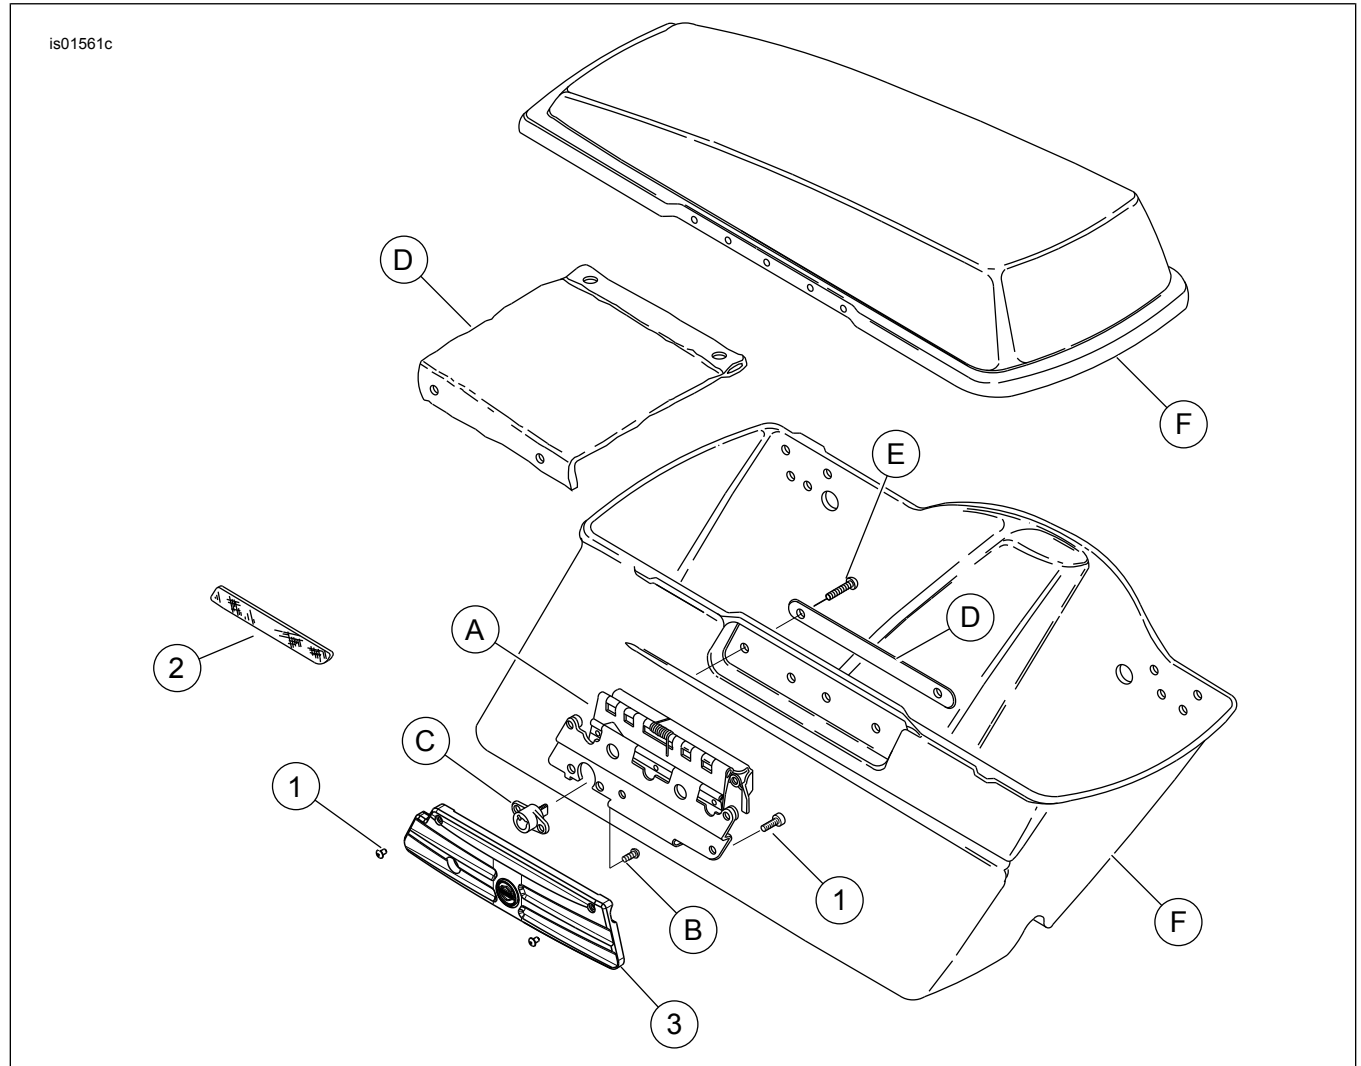

Figure 5. Service Parts: Saddlebag Latch Faceplate Kit
See Figure 5 and Table 1.
2. See Figure 5. Apply Loctite 243 (blue) to threads of two screws (1) from kit.
3. Loosely install faceplate (3) on latch assembly (A) with two screws (1).
4. Rotate the latch assembly (A) so the faceplate is facing down.
5. Apply Loctite 243 (blue) to threads of two TORX screws (B) previously removed from lock assembly (C).
6. Loosely install lock assembly (C) on latch assembly (A) using two TORX screws (B).
7. Apply Loctite 243 (blue) to threads of screw (1) and install on opposite side of faceplate.
8. Tighten TORX screws (B) that attach lock assembly (C) securely.
9. Tighten screws (1) that attach faceplate to latch assembly (A) securely.
10. Install latch assembly (A) to saddlebag (F) with previously removed TORX screws (E). Tighten TORX screws securely.
11. Install check strap (D) and latch assembly (A) to saddlebag (F) with previously removed TORX screws (E). Tighten TORX screws securely.